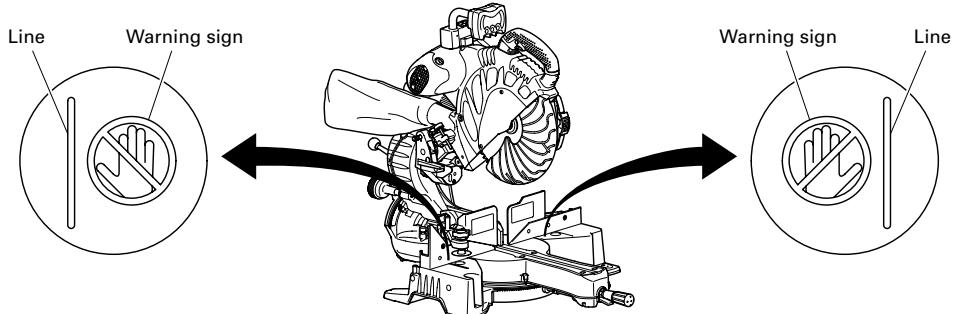

Fig. 23
- \* Never place your limbs inside of the line next to warning sign while the tool is being operated. This may cause hazardous conditions (see Fig. 23).